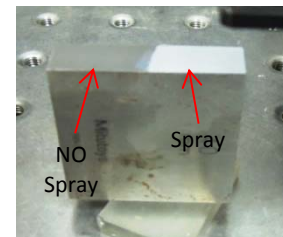

Figure 4 - Reference surface
- In order to estimate the spray alteration effect from the real values, we can use a reference (calibration) surface (fig.4) placed outside the tube and measured in the same session. The JIG is a simple flat surface half covered with spray and half without. We performed such a test and obtained around a 10 µm increase. This can, of course, be easily compensated for.